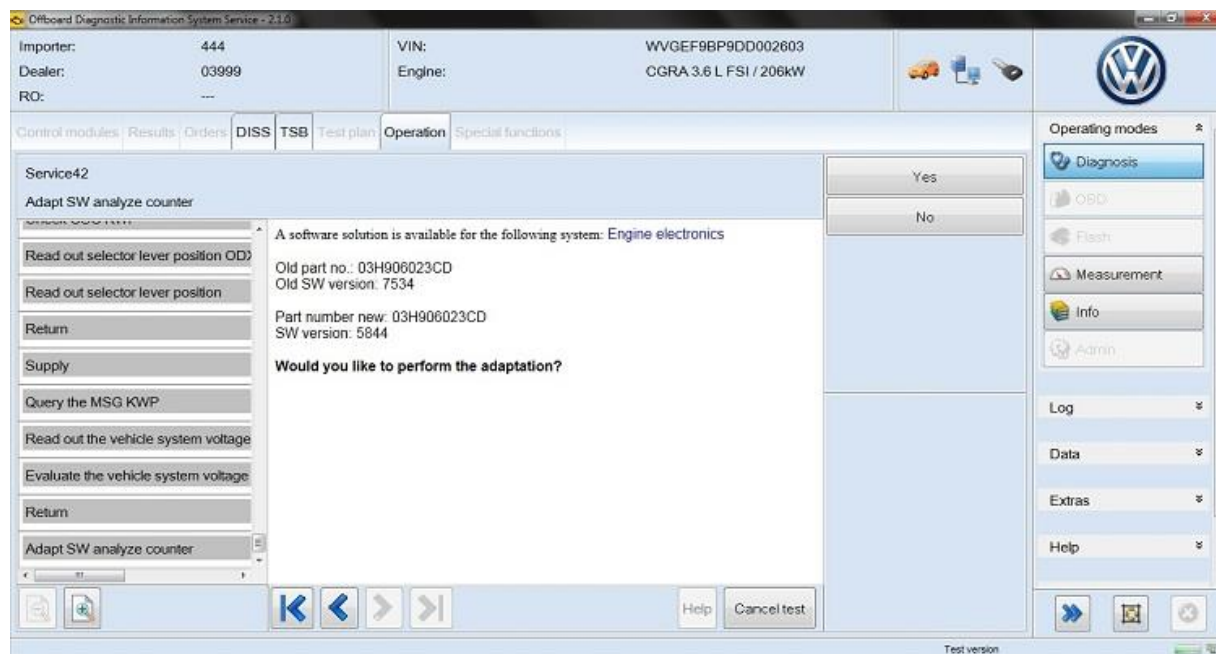

Figure 6
12. Select “Yes” to perform adaptation (Figure 6).